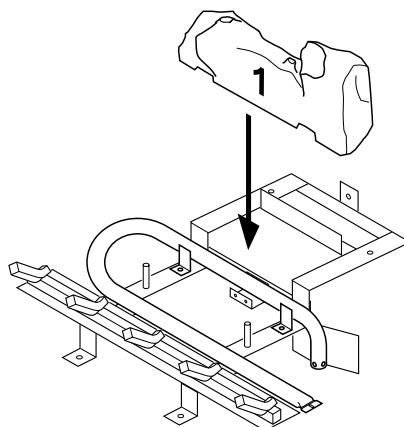

Figure 45 - Installing Log No. 1
1. Place log #1 (back log) on top of grate. Make sure the notches in the bottom of the log fit over the grate (see Figure 45).